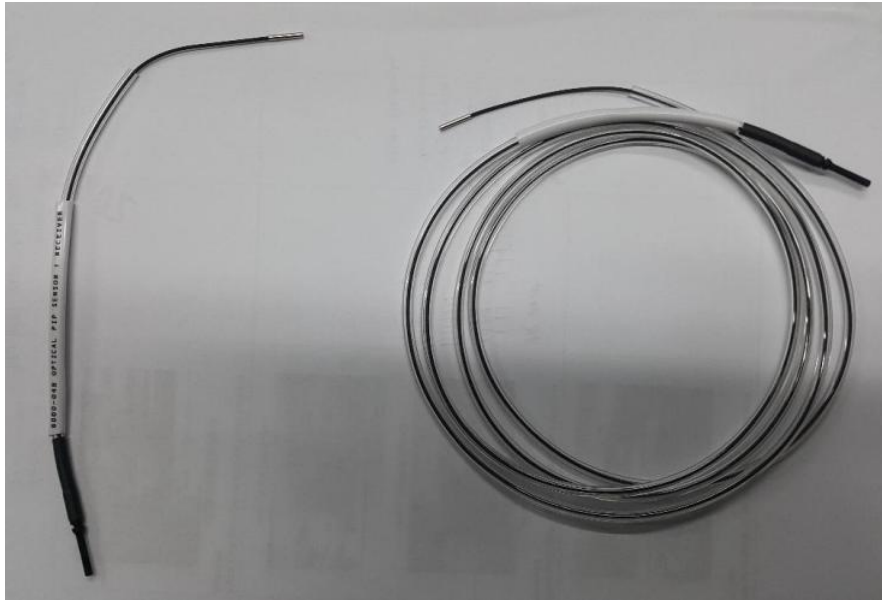

Figure 21 4XASP-A150 / 2000-0015 Left Stop PIP Cable
1. Install the new (4XASP-A150 / 2000-0015) S2EX Left Stop PIP Cable as shown below in Figure 21.